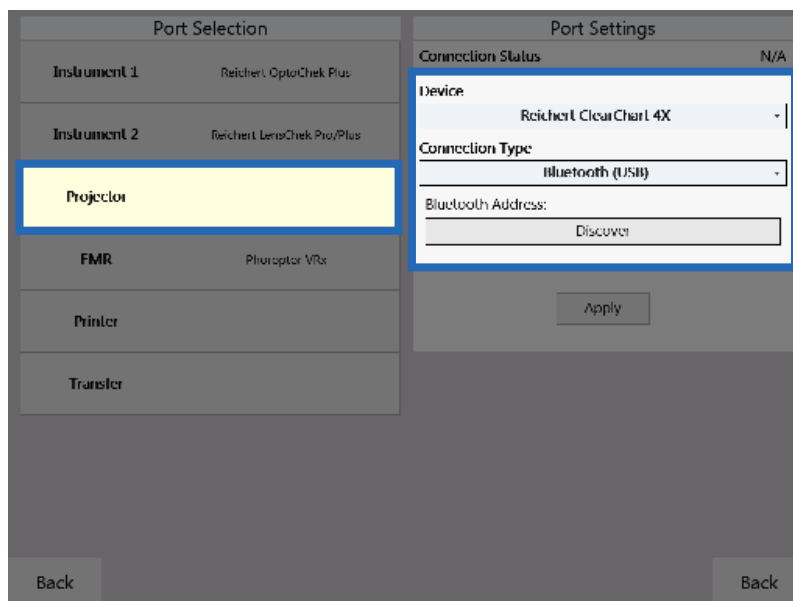

Figure IS-19, Device & Connection Type
6. Set the Connection Type to **Bluetooth (USB)**. Refer to Figure IS-19.
10. Tap **Discover** on the Ports page and the Phoroptor VRx will search for all available ClearChart Digital Acuity Systems. Refer to Figure IS-19.